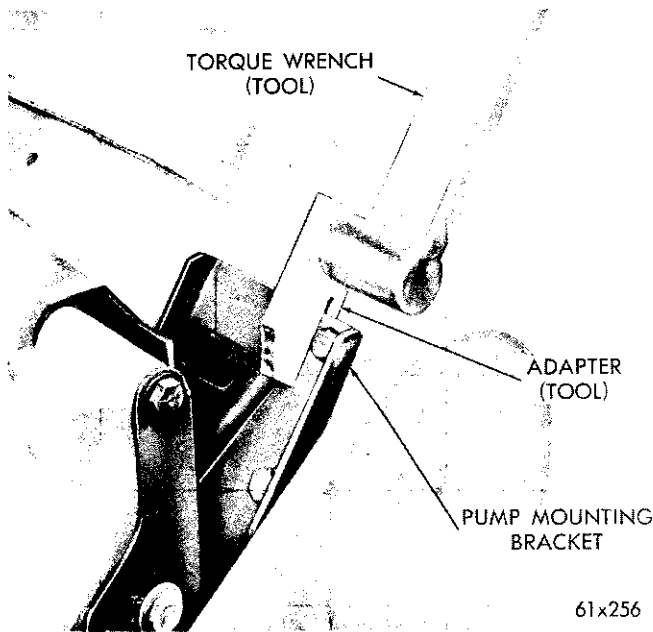

Fig. 12—Pump Belt Adjustment
(2) Install Tool C-3832 over the edge of the mounting bracket as close as possible to the outer edge of bracket and insert torque wrench drive in square hole of tool (Fig. 12).
(3) Tighten the pump belt until you get a reading of 45 foot-pounds on the torque wrench.